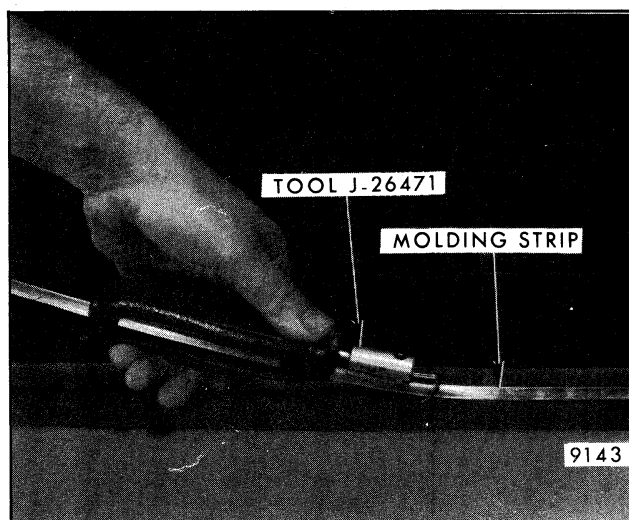

Fig. 11-15-Tailgate Window Molding Installation
7. Keeping the inserter eye in the cavity, draw the tool and continue to feed the molding strip into place (Fig. 11-15).